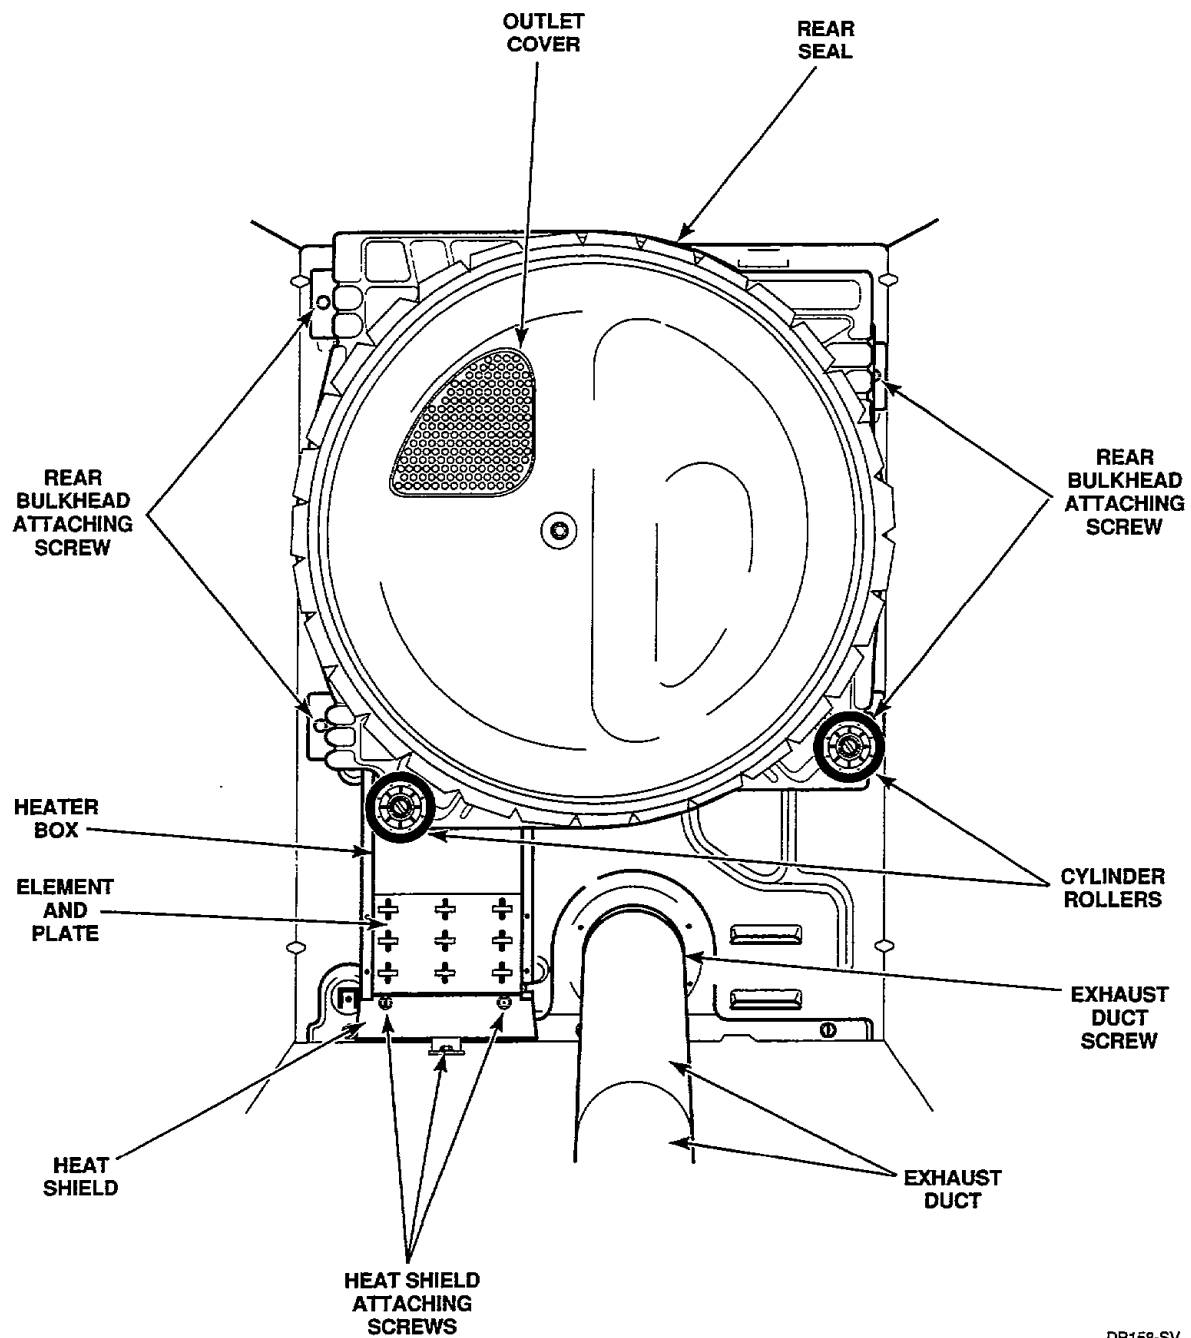

Figure 36
- j. Cylinder seal is cemented to the bulkhead. Pull rear cylinder seal from flanged edge of bulkhead, *Figure 36*.
- Open door and remove two screws holding outlet cover to rear bulkhead (if present), *Figure 36*.
Remove two screws holding element and plate to heater box, then pull element down and away from heater box, *Figure 36*.
- k. Remove screw holding heat shield to dryer base, *Figure 36*.
- l. While supporting bulkhead, remove the four screws holding rear bulkhead to dryer cabinet, *Figure 36*, then lift complete assembly out of dryer.
- m. Remove two screws holding heat shield to heater box, *Figure 36*.